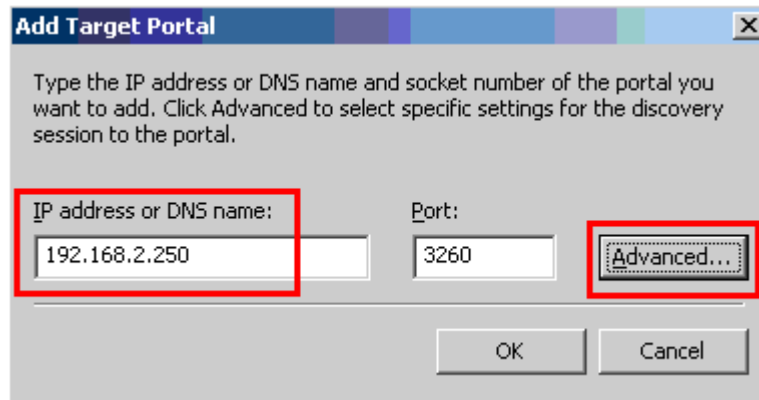

Figure 11-10. Add Target Portal Dialog Box
5. On the Add Target Portal dialog box (Figure 11-10), type the IP address of the target, and then click **Advanced**.